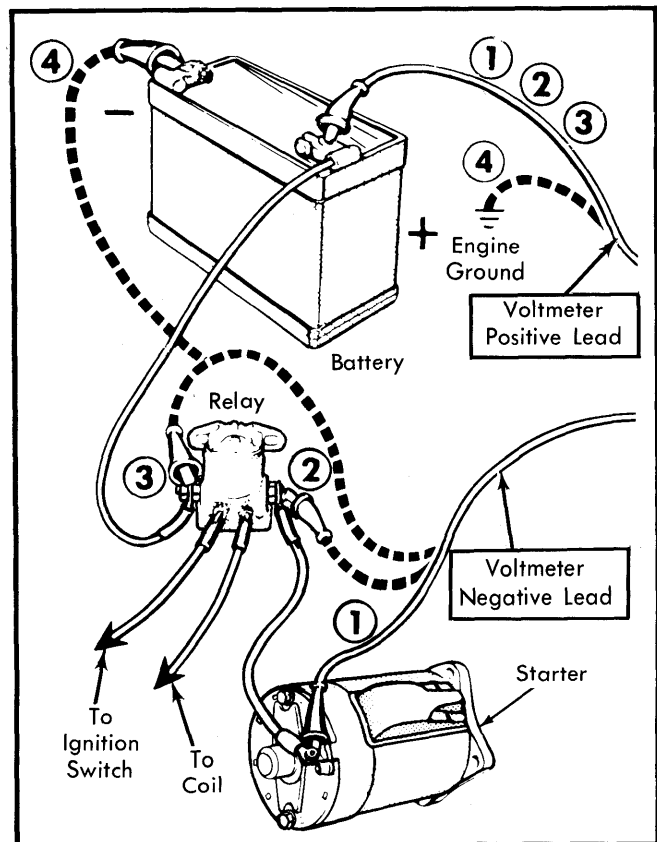

Fig. 2 Cranking Circuit (Voltage Drop) Test Connections
**NOTE** — Before performing tests, clean and connect battery cables. Be sure battery is fully charged. Remove coil high tension wire from distributor and ground it. Place transmission in neutral or park and apply parking brake. When making voltmeter connections, be sure to connect leads to battery posts or threaded terminals and not just to cable ends. See Fig. 2 for Voltage Drop Test connections.
Connect voltmeter positive lead to battery positive post and negative lead to starter motor terminal. Crank engine and note voltage. See Fig. 2.
Connect voltmeter positive lead to battery positive post and negative lead to solenoid terminal (starter side). Crank engine and note voltmeter reading. See Fig. 2.
**Solenoid Voltage Drop (No. 3) Test - 1)** Connect voltmeter positive lead to battery positive post and negative lead to solenoid terminal (battery side). Crank engine and note voltmeter reading. See Fig. 2.
Connect NEGATIVE voltmeter lead to battery negative post and POSITIVE lead to starter or engine ground. Crank engine and note voltmeter reading. See Fig. 2.